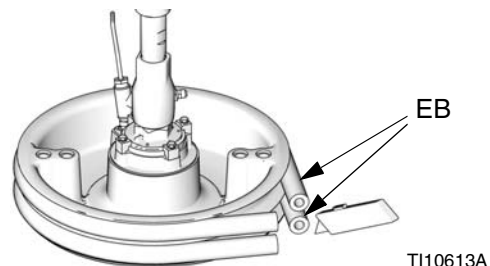

FIG. 13
1. To replace worn or damaged wipers (EB), raise platen up out of drum. Remove drum from base. Wipe fluid off of platen.
2. Cut top and bottom wipers with knife and remove from platen. See FIG. 13.